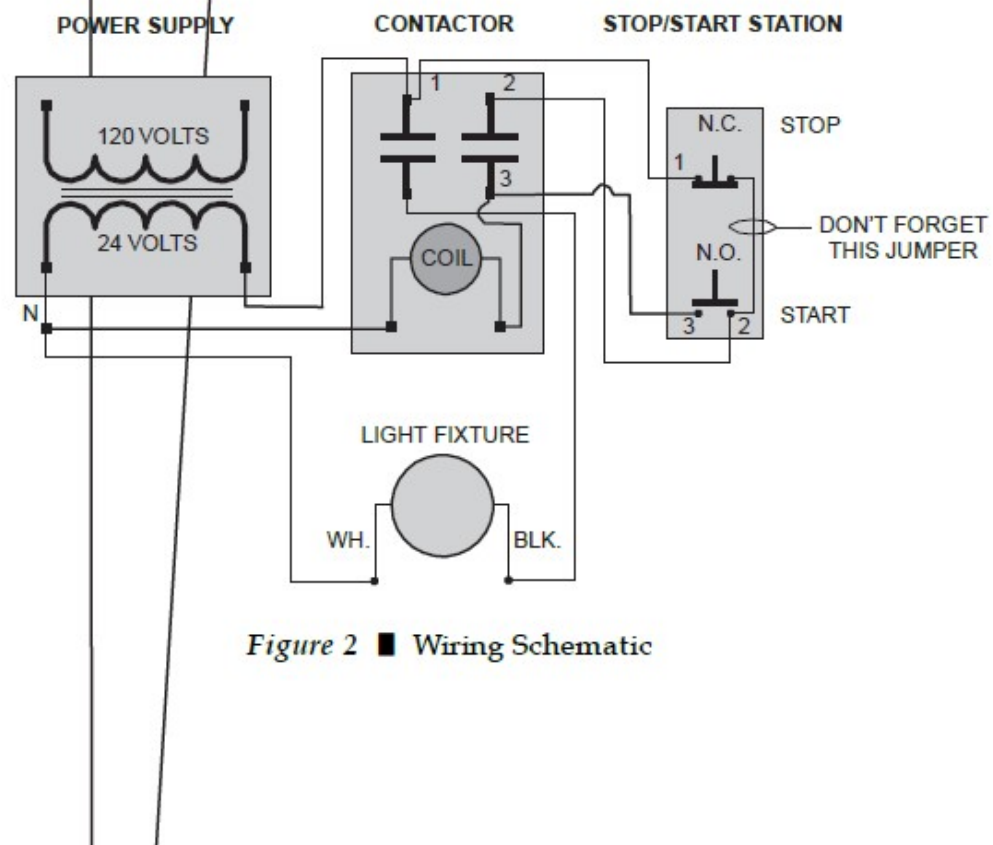

Figure 2 ■ Wiring Schematic
3. Refer to *Figure 2* for the wiring schematic.
10. Wire the stop/start station, as shown in *Figure 2* (don't forget the jumper) and install the cover.
11. Wire the contactor as shown in *Figure 2*.